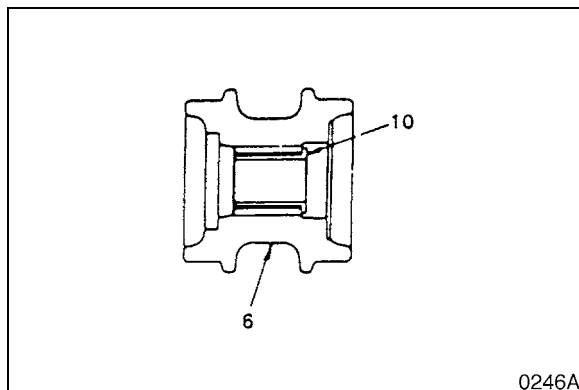

Figure 44
1. Degrease, clean and dry all parts before reassembly. Insert bushing (10, Figure 44) into the roller (6).